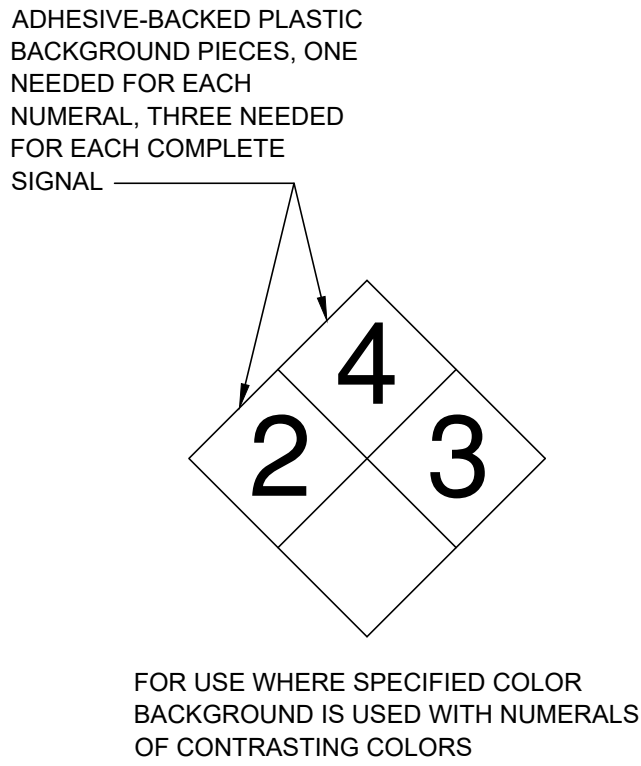
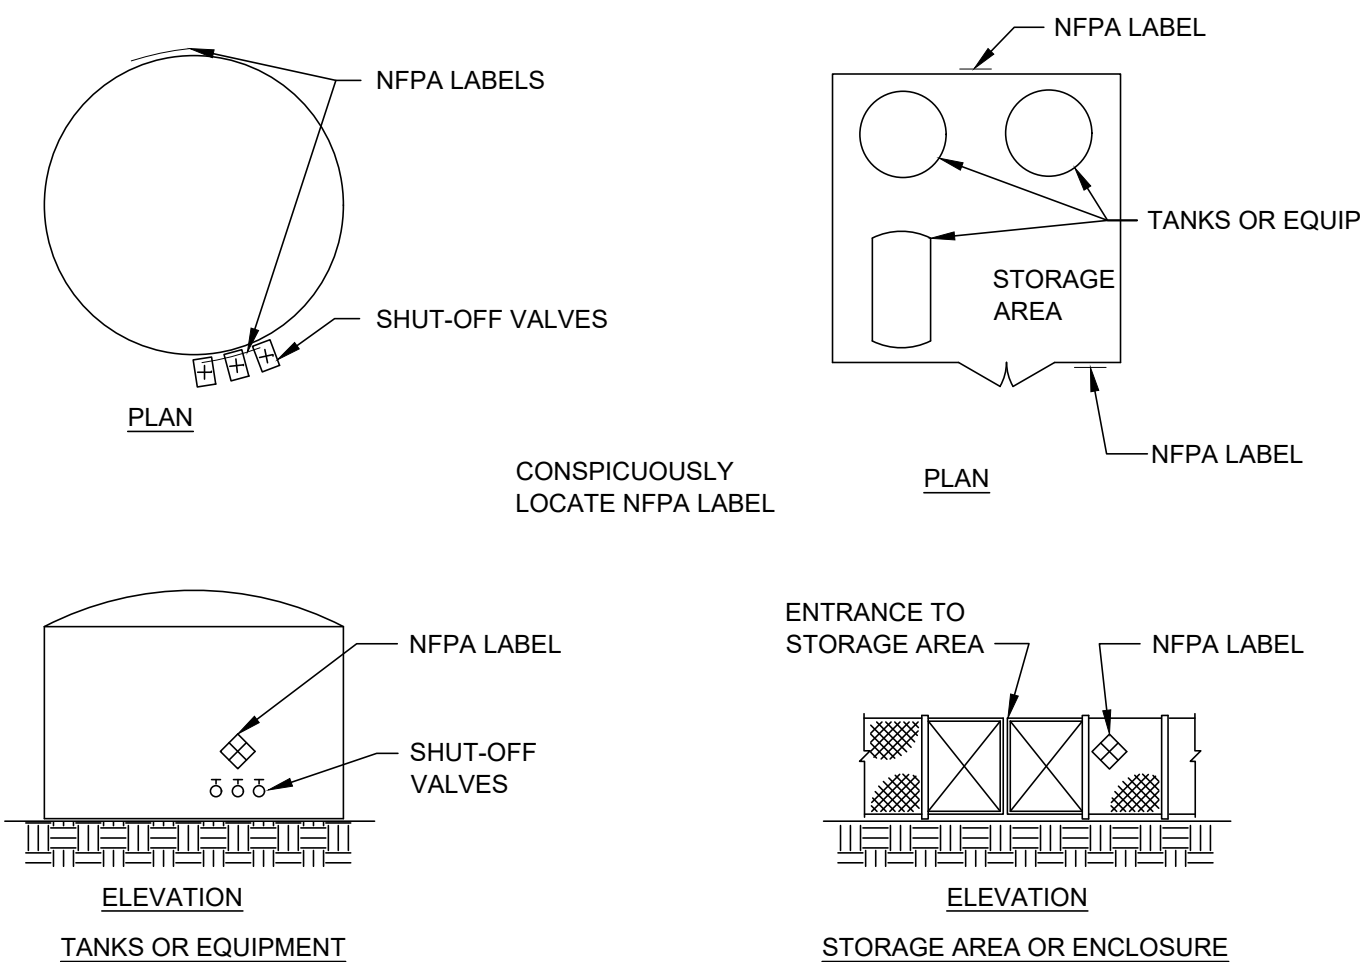

FIGURE 1: TYPICAL NFPA 704 HAZARD IDENTIFICATION SYSTEM
FIGURE 2: TYPICAL NFPA LABELING DETAIL
- TANKS: AST'S AND EQUIPMENT ENCLOSURES SHALL BE MARKED TO SHOW CONTENTS AND CAPACITY USING HIGH BLACK LETTERING. MARKINGS SHALL BE PLACED FOR MAXIMUM VISIBILITY. IN ADDITION, TANKS SHALL BE MARKED FOR HEALTH, FLAMMABILITY, AND REACTIVITY HAZARD PER THE NFPA 704 STANDARD SYSTEM (SEE FIGURE 1), AND HAVE COLORS PER TABLE 1. MARKINGS SHALL BE SIZED AND LOCATED SO AS TO BE CONSPICUOUS (SEE FIGURE 2) AND SHALL BE LABELED PER TABLE 3. LOCAL CONDITIONS MAY AFFECT IMPLEMENTATION AND APPROVAL OF FIRE MARSHAL OR LOCAL AUTHORITY HAVING JURISDICTION MAY BE REQUIRED.